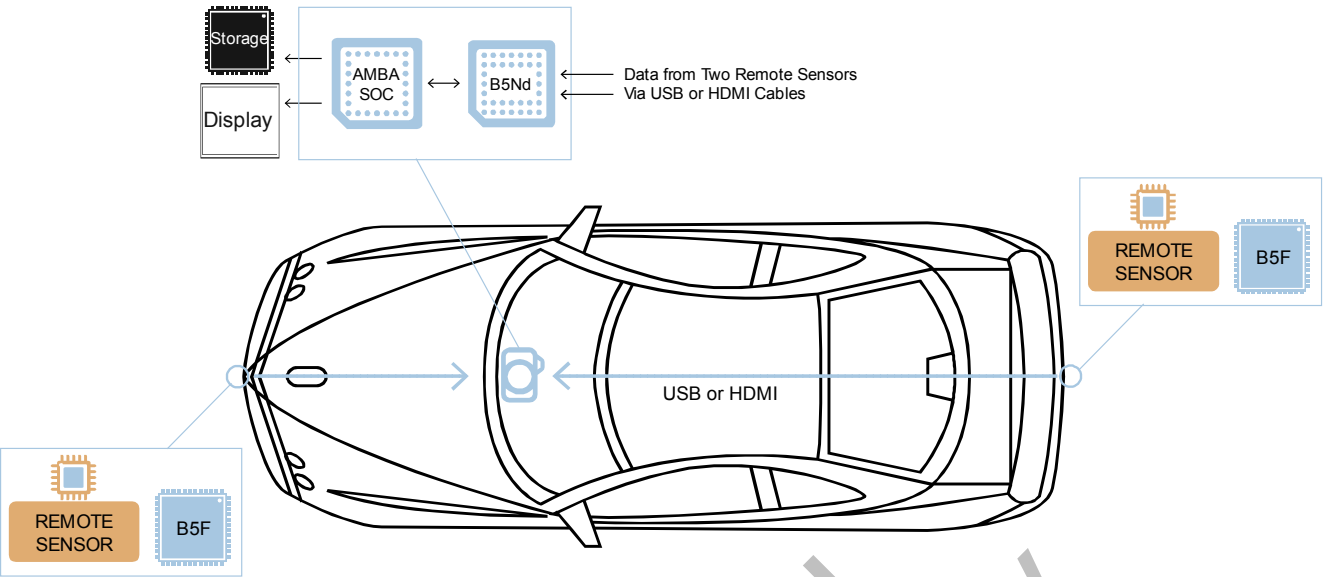

Figure 1-3. A12A35 Automotive Camera Application: Dual Remote Sensor Configuration (B5-Equipped).
1. Two remote sensor inputs are sent to the A12A35 SoC via the Ambarella B5F (serializer) and B5Nd (de-serializer) companion chips (Figure 1-3)